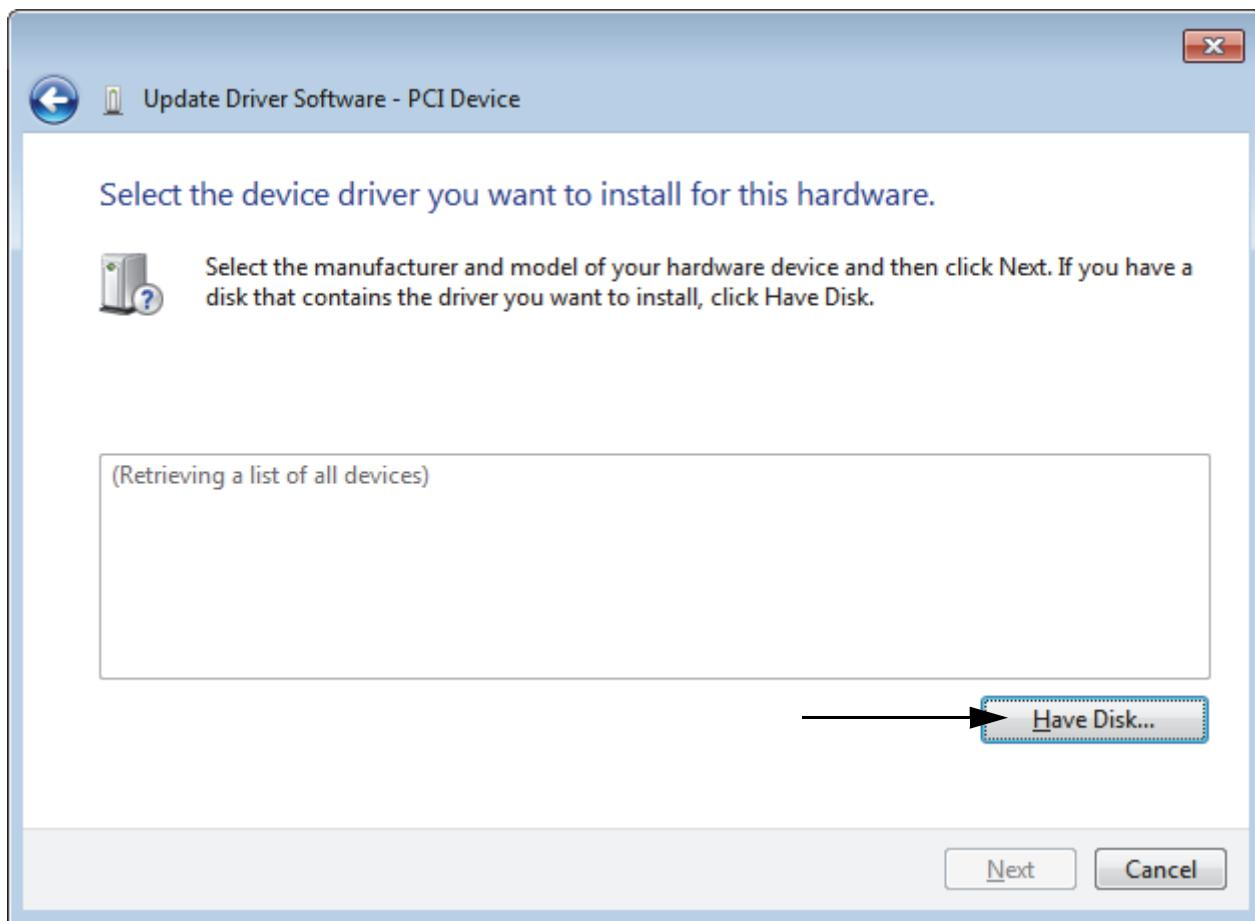

Figure 5-23. Selecting Have Disk
8. Select **Have Disk** as shown in Figure 5-23.